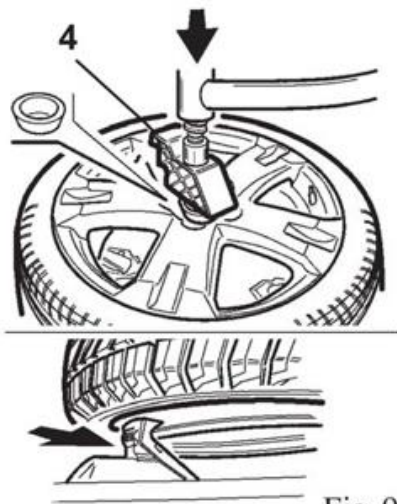

Fig. 9
- In case of difficulty, use the bead pressing tool (4) to keep the rim pressed onto the turntable clamps and facilitate its locking (if necessary, use a central cone to facilitate the operation) (fig.9).